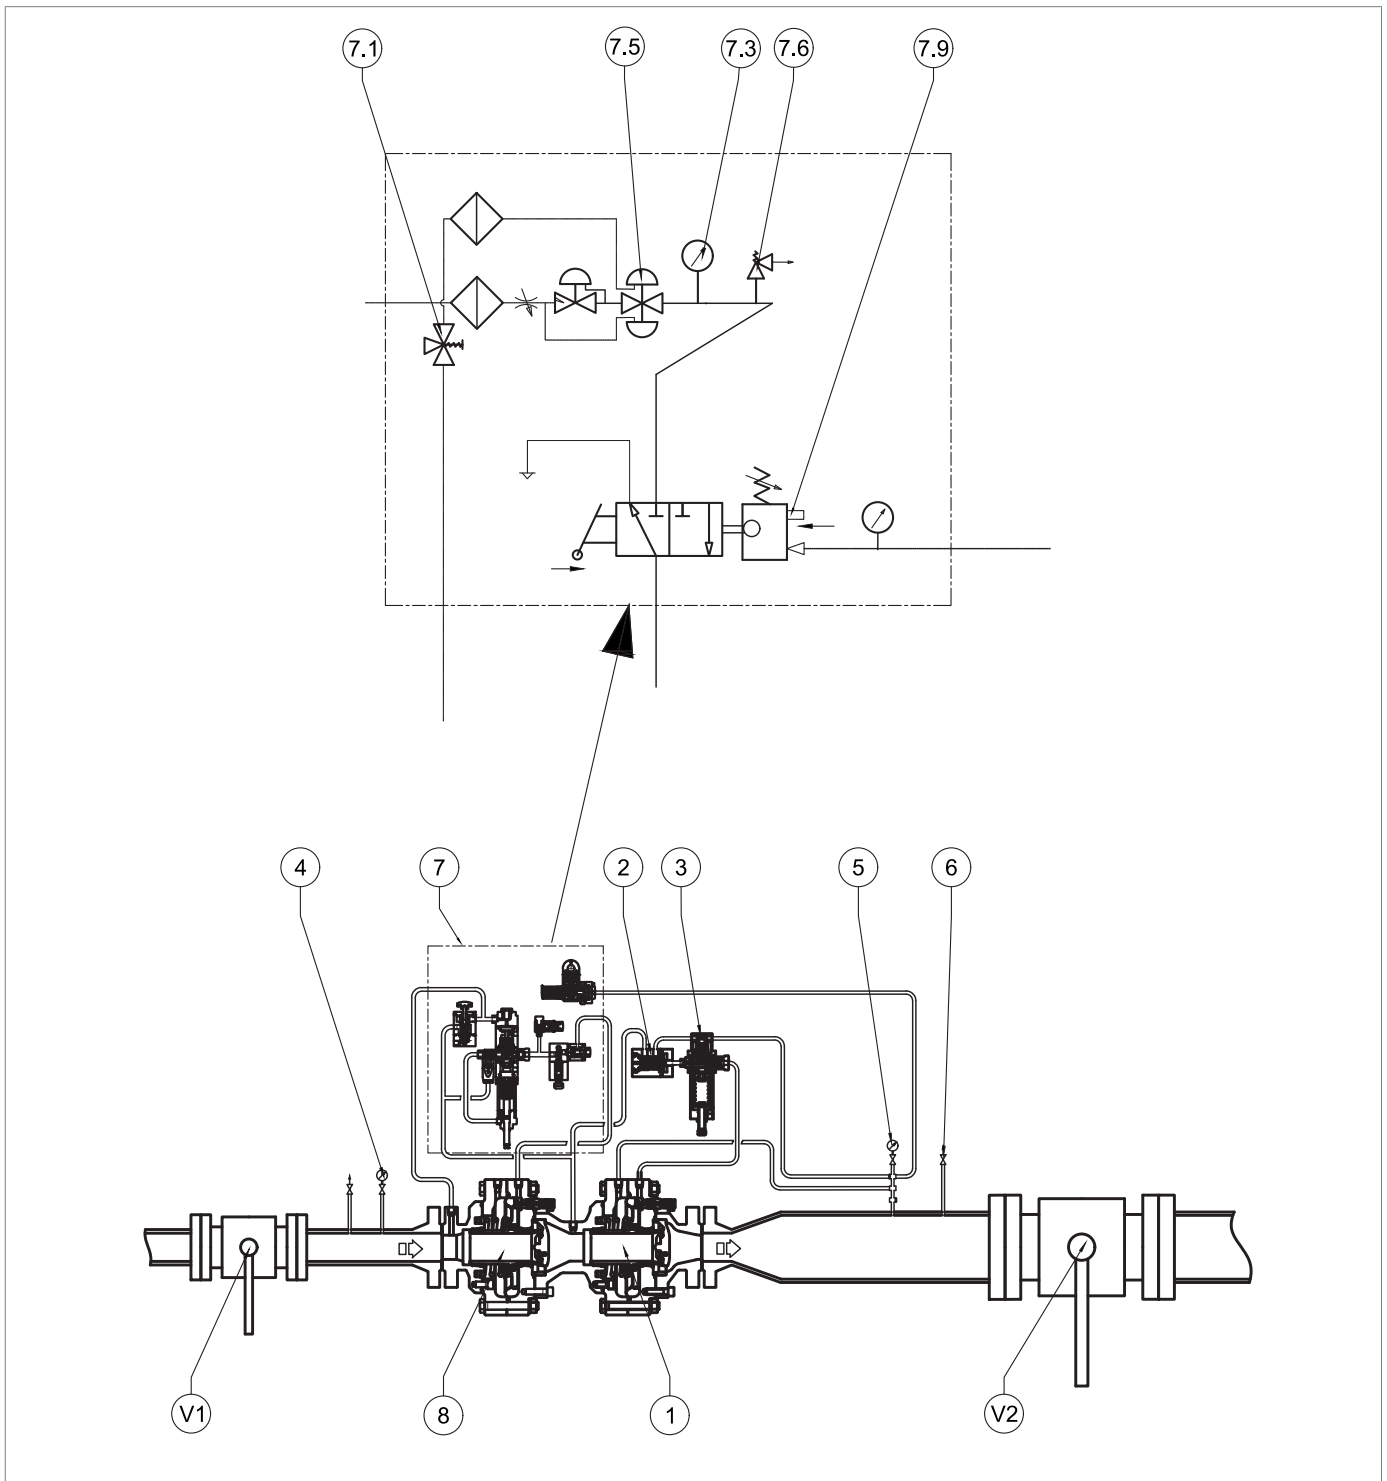

Fig. 8.28. LINE OFF 2.0 commissioning and calibration for the SSX/176 built-in slam-shut valve
4	Equalize the upstream and downstream pressure of the slam shut valve using the HP2/2 by-pass valve (Fig. 8.28, ref. 7.1).
- Next, check that the pressure indicated by the pressure gauge installed on the LINE OFF 2.0 device (Pos. 7.3 - Figure 8.28.) is 0 bar, ensuring complete depressurisation of the line.